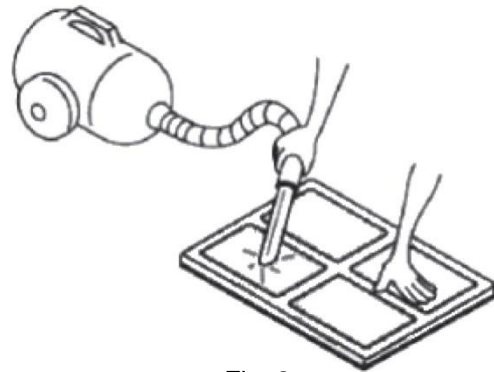

Fig. 2
- It is best to clean the air filter carefully under lukewarm water or with a weakly adjusted (suction power) vacuum cleaner. (See Fig. 2)